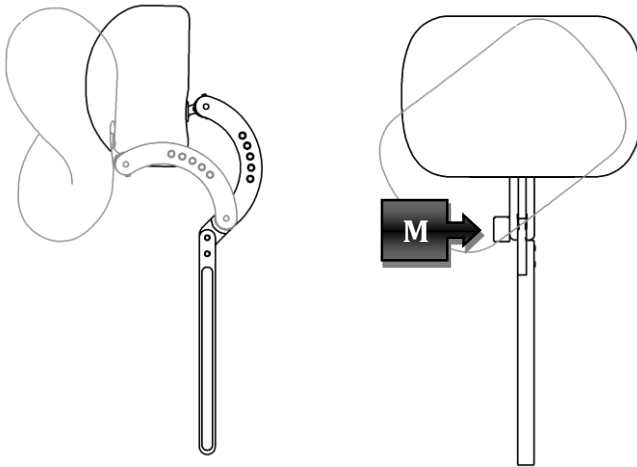

Figure 26
- Cushion rotation: acting on the cushion you can orient it as shown in Figure 26
- Depth adjustments: acting on the handle (M) indicated in Figure 26 it is possible to make the headrest more or less protruding.